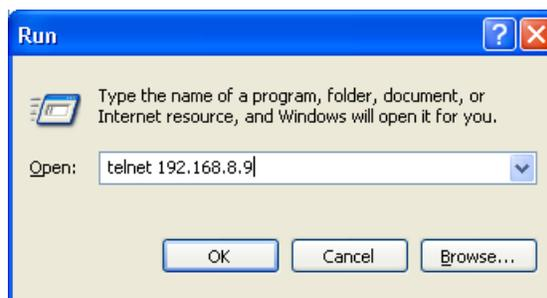

Figure 7-7: Run Window for Telnet Access
7. Without powering down, login to Linux using a Telnet session. Replace 192.168.8.9 with the unique IP address of your EQT as shown in Figure 7-7.